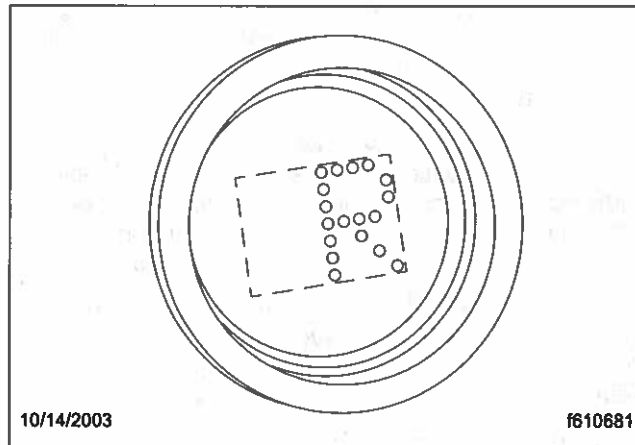

Fig. 8.28, Reverse Gear Display
Reverse (R) is at the upper end of the three-position selector switch located at the end of the SmartShift control lever. To select reverse (R), press in the neutral lock button and move the selector switch upward to the position above neutral. When reverse is selected, the letter "R" displays on the current gear indicator. See Fig. 8.28.